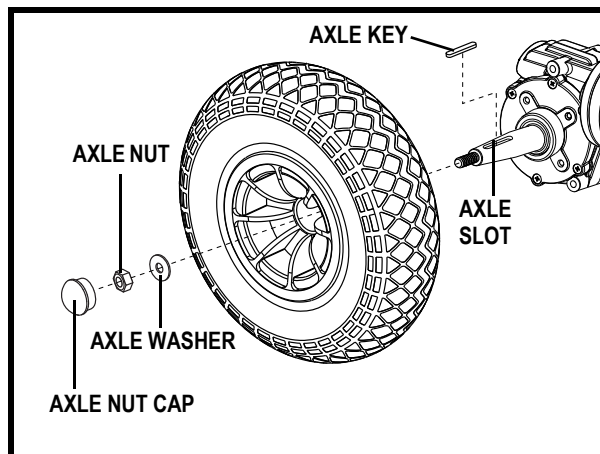
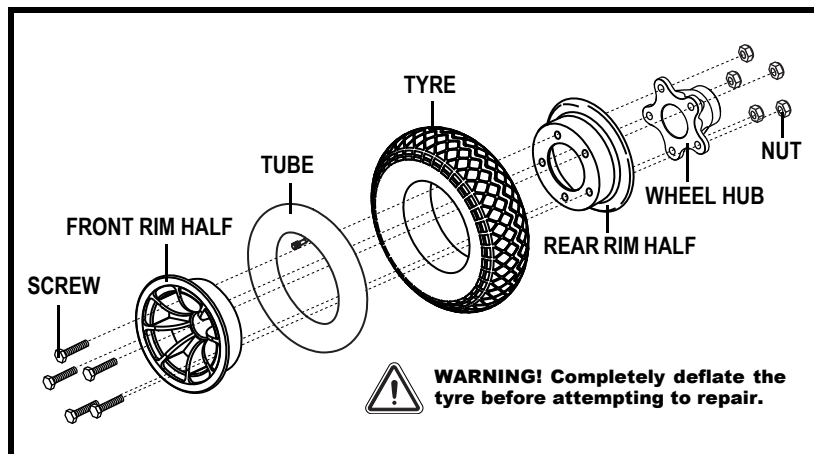

Figure 26. Sparky Drive Wheel
Figure 27. Sparky Drive Wheel Disassembled
4. Remove the axle nut cap, axle nut and axle washer from the wheel hub. See figure 26.
6. Remove the five (5) Nylock nuts from the inside of the wheel hub.
7. Remove the screws and separate the front and rear rim. See figure 27.
9. Reinstall the screws through the two rim halves and hub. Tighten the five (5) Nylock nuts on the inside of the wheel hub.